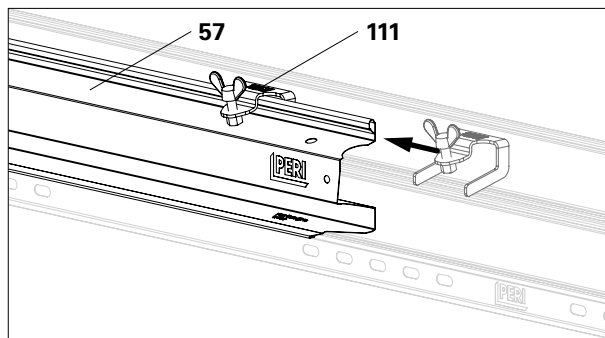
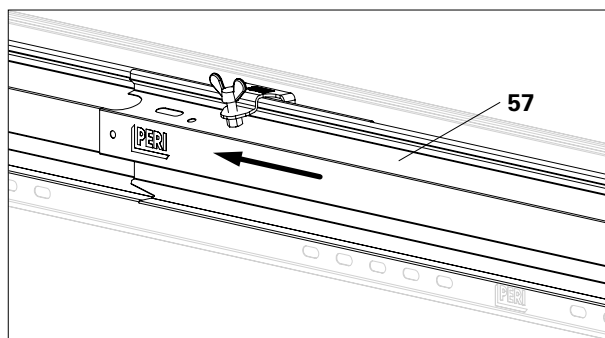

Fig. B7.07
Fig. B7.08
1. Slide the Toe Board Compensation UPY-L (111) onto the first Toe Board UPY (57). (Fig. B7.07)
2. Slide the second Toe Board UPY (57) between the Toe Board UPY and Toe Board Compensation UPY-L in an overlapping position.
- The toe board is installed. (Fig. B7.08)